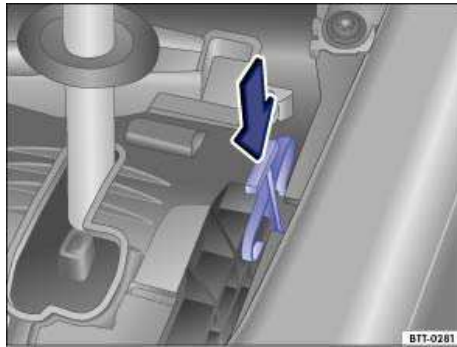

Fig. 157 Releasing the selector lever lock.
- Push the colored release lever ⇒ fig. 157 in the direction of the arrow and hold it in this position.